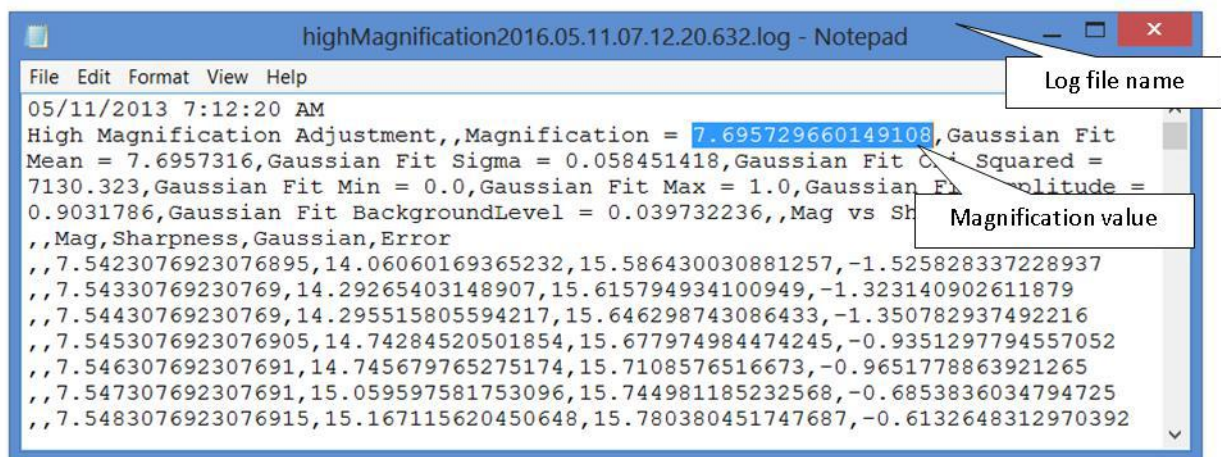

Figure 20
25. Once CDnA complete, go to path C:\Program Files\AXI System\v810\<REV>\log\calib\Magnification, check for latest high magnification log file. Sample as Figure 20.